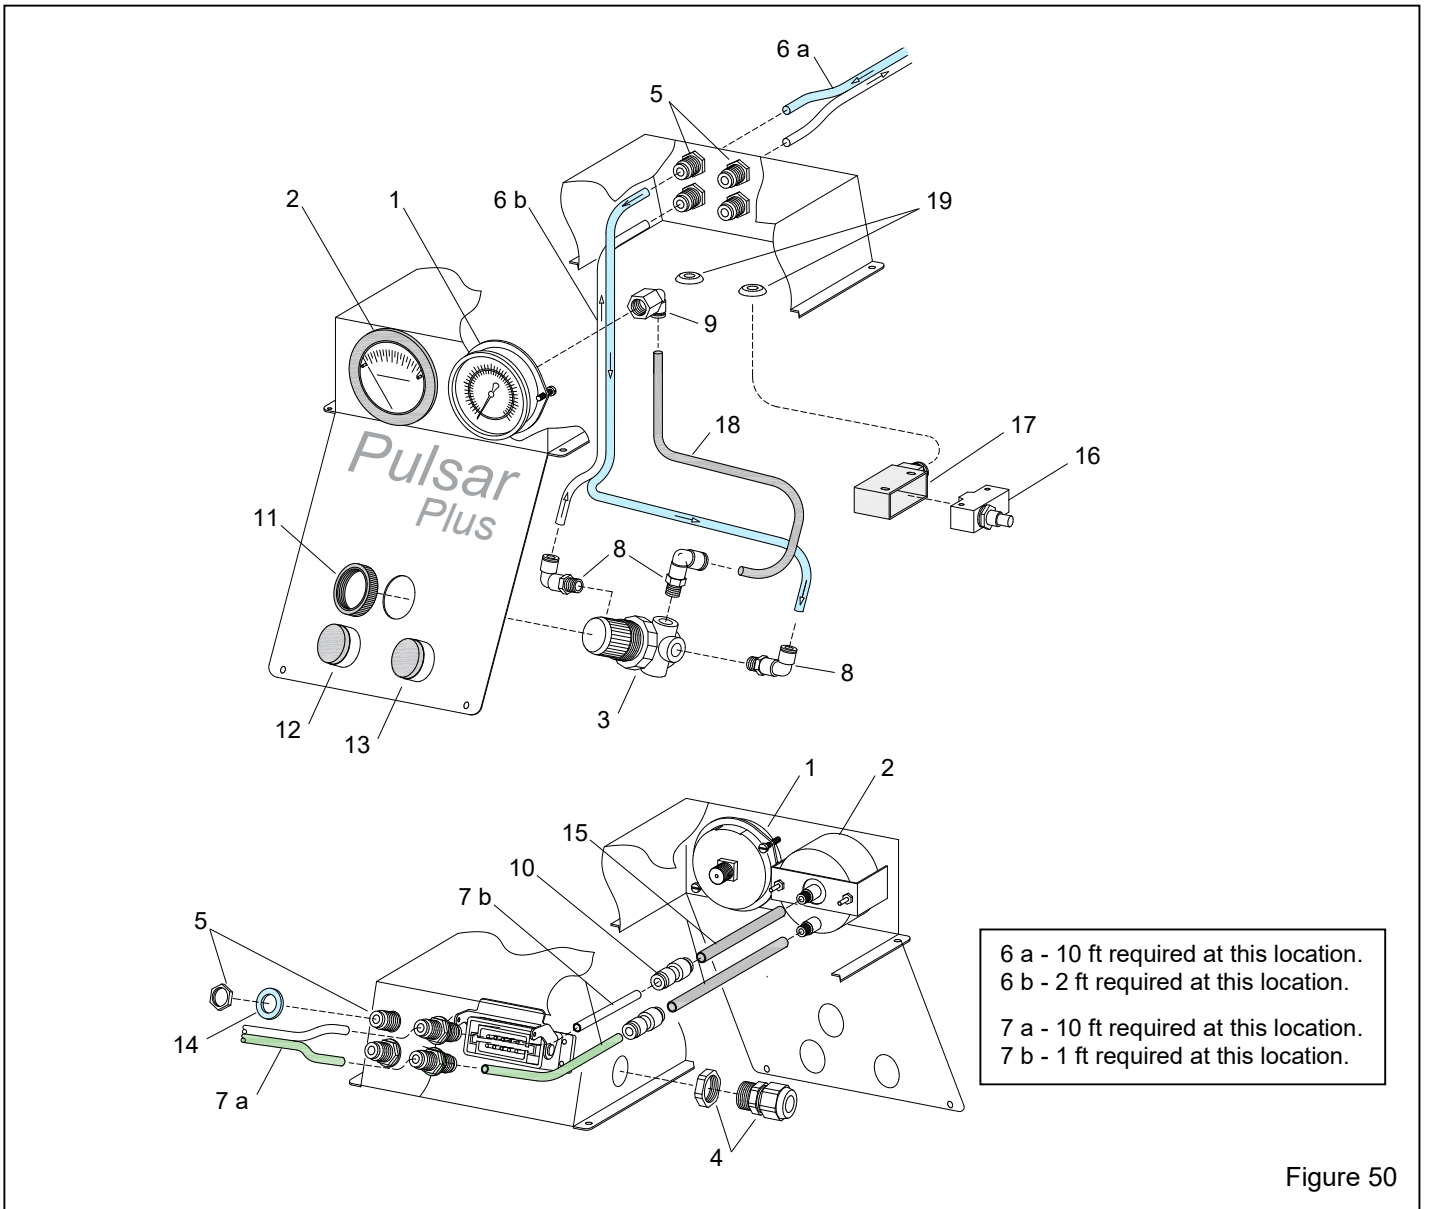

Figure 50
10.3 Cabinet Control Console Assembly – Figure 50